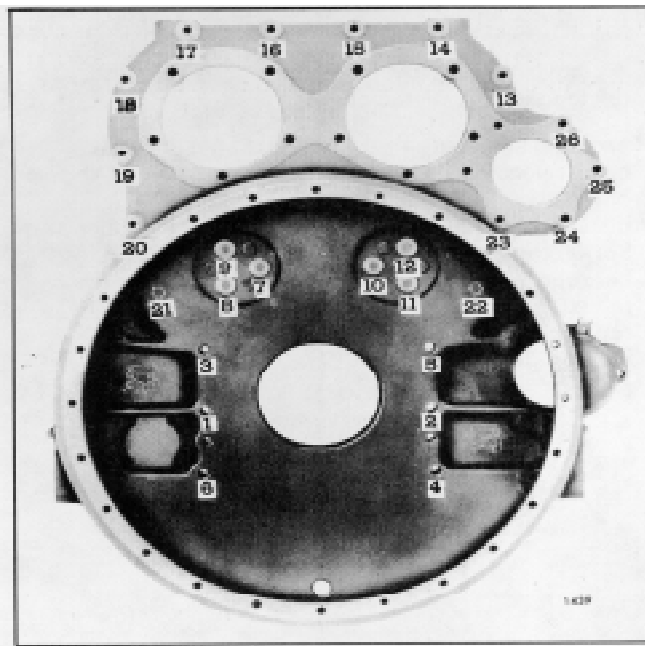

Fig. 5 - Flywheel Housing Bolt Tightening Sequence
10. Refer to Fig. 5 for the final bolt tightening sequence and, starting at number 1, tighten all of the bolts to the specified torque. Tighten the  $\frac{3}{8}$ "-16 idler gear hub and hole spacer self-locking bolts to 40-45 lb-ft (54-61 Nm) torque. Tighten all other  $\frac{3}{8}$ "-16 and  $\frac{3}{8}$ "-24 bolts to 25-30 lb-ft (34-41 Nm) torque, and the  $\frac{1}{2}$ " -13 bolts to 90-100 lb-ft or 122-136 Nm torque (cast iron housing); or 71-75 lb-ft or 96-102 Nm torque (aluminum housing). Be sure to rotate the crankshaft when tightening the idler gear hub bolts and flywheel housing bell.